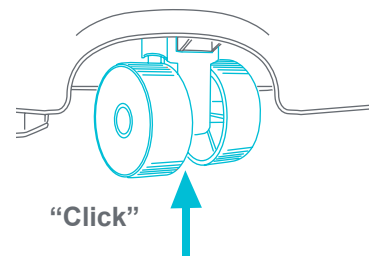

Fig. 8b
- Push the wheel upward until it clicks into the base (Fig. 8b). Repeat for the other side.